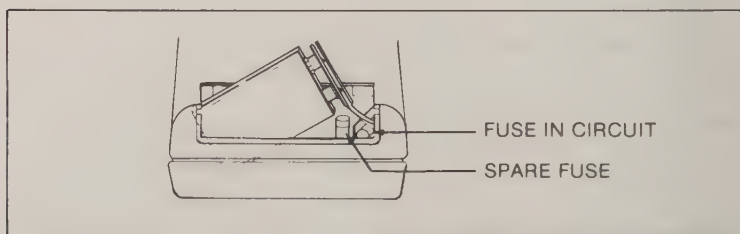

**Figure 2-2. Battery Removal and Fuses**
4. Slide the battery out of the compartment as shown in Figure 2-2.
When you installed the battery, you probably noticed two fuses at the right side of the battery compartment (refer to Figure 2-2 or examine your instrument). The fuse at the far right is F1. Fuse F1, 2A/250V, protects the current input from an input overload. The other fuse is a spare fuse for F1. When you purchase your instrument, F1 should be installed and the spare fuse should be in one of the two slots next to it. The larger slot is for the American-style fuse, and the smaller slot is for the European-style fuse (either style fuse fits in the installation compartment).